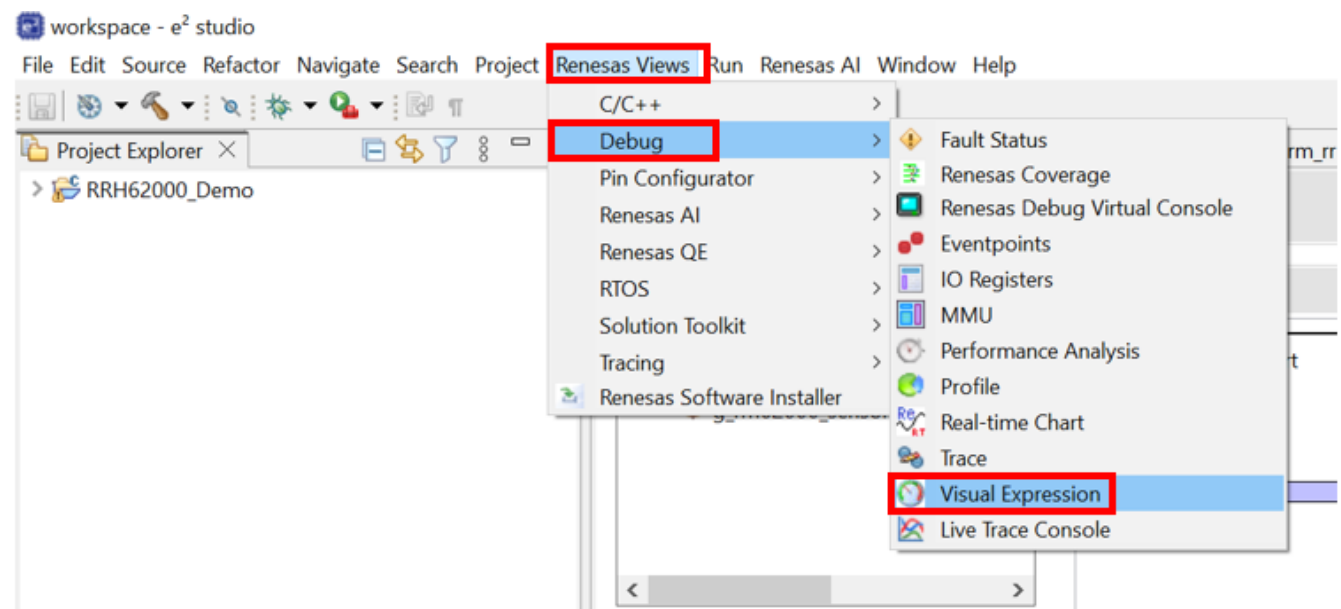

Figure 19. Open Visual Expression
- 5. From the Menu bar, select **Renesas Views > Debug > Visual Expression** (see Figure 19).